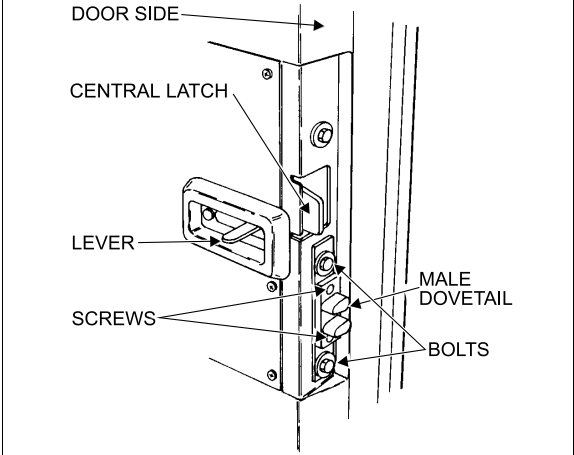

FIGURE 19: DOOR LATCH (COACH) 18059
5. To adjust the male dovetail on L.H. side of the door, remove the two screws and loosen the two bolts. Slide the male dovetail toward the interior and loosely tighten the two bolts. Close the door slowly but firmly, then slowly open it and tighten the two bolts. Attach dovetail to the door with screws. See Figure 19.